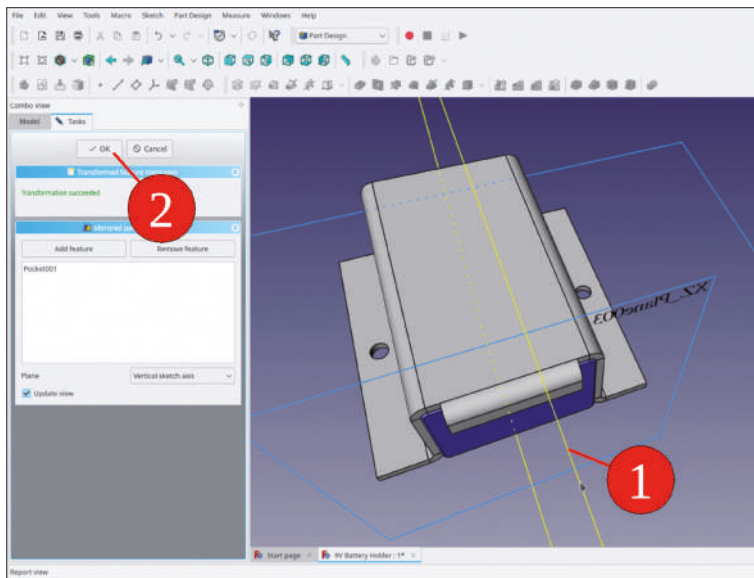

Figure 5-21
25. A task window opens, and possible mirror planes are shown in the 3D view. Select the YZ plane (Figure 5-21, step 1) and close the task window with the 'OK' button.